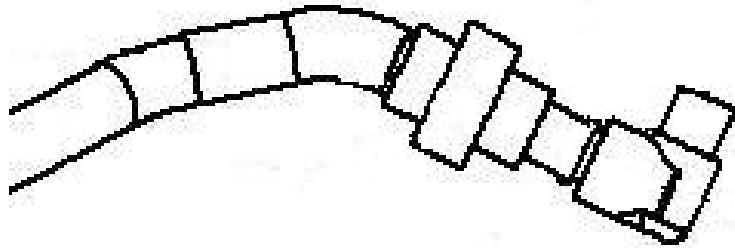

Figure 10
- 13) Allow sufficient time for the glue to cure before moving on to the next step. The glued assembly is shown in Figure 10.